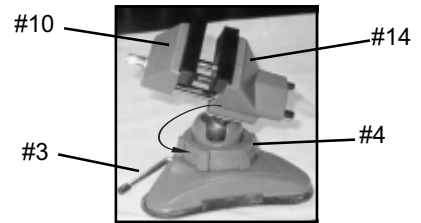

Figure 2
1. Place the Hobby Vise on a smooth flat, non plastic surface. This will support your object being crafted. Secure the Hobby Vise to the surface by turning the Hobby Arm (#3) in the opposite direction causing the Suction Cup (#1) to grip the surface tightly. (See Figure 2) **Caution:** Use this lightweight Hobby Vise for small projects only and do not expect it to hold objects too large for its capacity.
4. Tilt or swivel Hobby Vise to desired position by loosening Collar (#4) counterclockwise. When you have the desired angle for working on your project, turn Collar (#4) clockwise tightly. (See Figure 2)